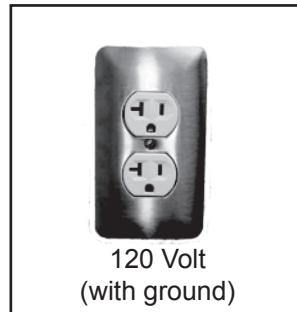

Fig. 1
- Plug the appliance to the electrical outlet (Fig 1)
- Press the main switch (E)
- Wait for the boiler to reach operating pressure. When the green light (H) turns on, the appliance will be ready for use (using hot water will expedite heating process)
-Connect VaporLux to a suitable outlet. Always make sure that the outlet is equipped with earth, ground fault interrupter and is of matching voltage to that specified on the appliance data plate (**Fig 1**);